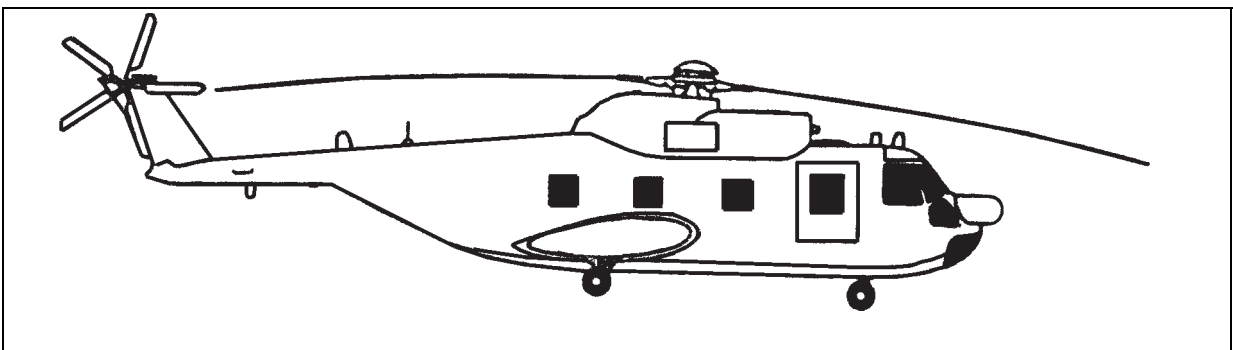

Figure 2-6. HH-3F Pelican
- SH-3G and HH-3F.** The SH-3G Sea King, and HH-3F Pelican (figure 2-6) are twin engine, single main rotor helicopters manufactured by Sikorsky Aircraft. These helicopter models have two different cargo hook systems: the cable-suspended cargo sling system, rated at 6,000-pound capacity; and the low response cargo sling system, rated at 8,000-pound capacity.